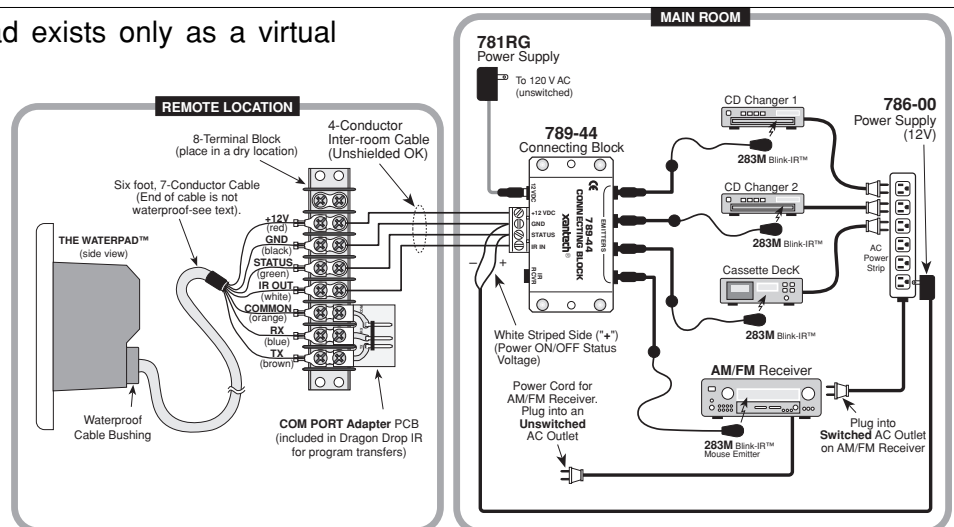
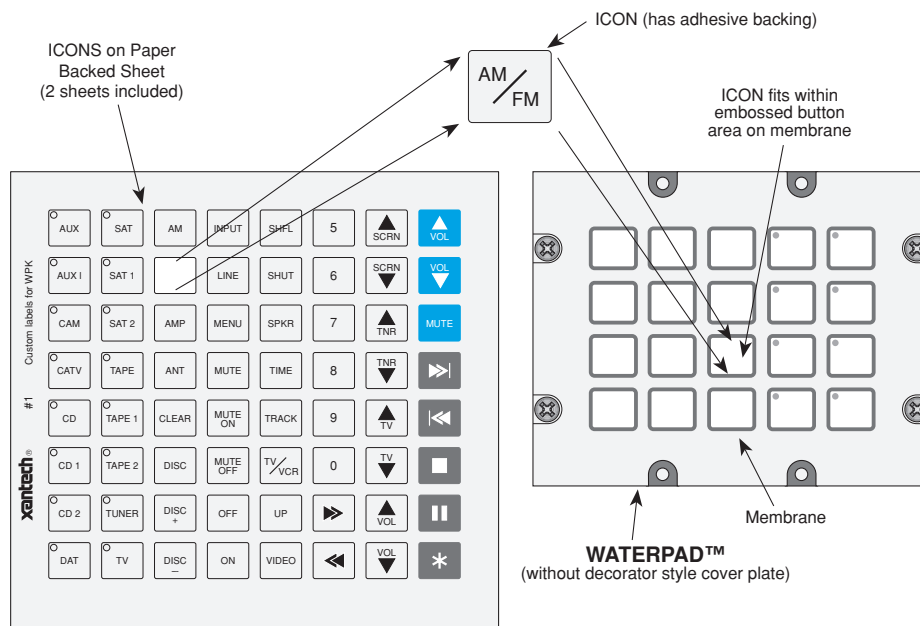
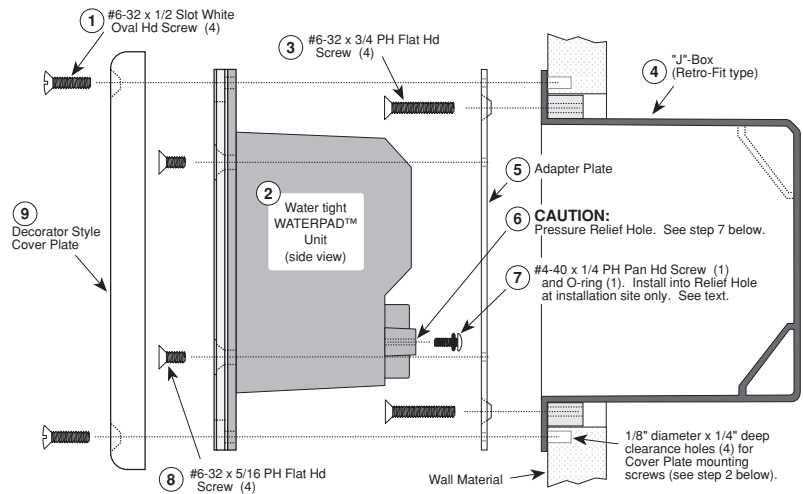

Fig. 3 Typical 4-Source Waterpad Controlled System
Fig. 4 Icon Application
Fig. 6 Mounting the Waterpad into a Retrofit type J-box.
The following example will serve to illustrate this process. Suppose a client wants to control an AM/FM stereo system with a Waterpad, as in **Fig. 3**, from an outdoor location and that he has the following equipment and system requirements:
8. The Waterpad is now wired into the final system (refer to **Figs. 3 & 5**) and all commands tested again -- **before** applying the button icons.
9. If the system functions correctly, the button icons can then be applied, as shown in Fig. 4. Finally, the Waterpad is mounted to the wall as shown in Fig. 6, 7, 8 & 9.
2. Align it very carefully within the rectangular embossed button area on the membrane of the Waterpad and press it into place. See **Fig. 4**.
- See **Fig. 3** for STATUS connections in a typical system.
To mount the Waterpad using a retrofit J-box, refer to Fig. 6 and proceed as follows:
1. Temporarily mount or hold the J-box ④ to the wall opening.
2. Using the Adapter Plate ⑤ (supplied) as a template, mark, then drill four 1/8" x 1/4" holes in the wall material to allow clearance for the ends of the #6-32 x 1/2" cover plate screws ①. This allows the cover plate to be pulled down flush to the wall in step 9. See Figs. 6 & 8.
3. Thread the 6-foot cable from the Waterpad through the Adapter Plate ⑤ and through a knockout hole in the back of the J-box ④.
4. Run the 6-foot cable from the back of the J-box to a dry location in an adjacent compartment or room and make connections to the 8-terminal block and the 4-conductor inter-room cable. Refer to Figs. 3 & 7.
8. Using the four #6-32 x 5/16" PH Flat Hd screws ⑧ (supplied), attach the Waterpad ② to the Adapter Plate ⑤. See Figs. 6 & 7.
- The final step is to attach the Decorator Cover Plate ⑨ (supplied) to the front of the Waterpad assembly using the four #6-32 x 1/2" Slot White Oval Hd screws ① (supplied).
- Use the Adapter Plate ⑤ as a template to mark a cutout opening for the Waterpad on the wall and to locate pilot holes for the four Adapter Plate mounting screws ③. Also, mark spots for clearance holes for the ends of the #6-32 x 1/2" cover plate screws ①.
- Using a #32 bit, drill four countersunk pilot holes 3/4" deep for the Adapter Plate and the mounting screws ③.
- Drill four 1/8" x 1/4" holes in the wall material to allow clearance for the ends of the #6-32 x 1/2" Cover Plate screws ①.
- Using the four #6 x 3/4" Flat Hd Sheet Metal screws ③ (supplied), attach the Adapter Plate ⑤ to the wall.
- Run the 6-foot 7-conductor cable from the Waterpad through the wall opening to a dry location in an adjacent compartment or room. Make connections to the 8-terminal block and the 4-conductor inter-room cable. Refer to **Figs. 3 & 7**.